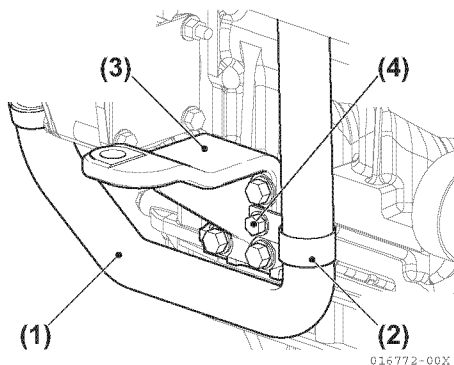

Figure 5-177
- For 4JH4AE gear case side seawater pipe, insert the pipe in the retainer. Fasten the retainer to the mounting foot with flange bolt (Figure 5-177).